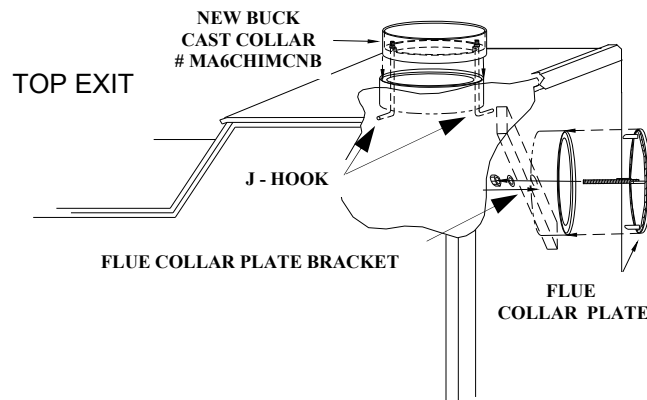

Figure 2.
7. Next fasten New Buck’s Cast Collar part number MA6CHIMCNB to the flue exit of stove to be used, using the J hook’s provided. Position collar with gasket towards the unit, tighten the J hook’s **Firmly** . (See Figure 2).
8. Fasten New Buck’s Flue Collar Plate to the exit not used for burning stove. Firmly secure the Flue Collar Plate Bracket with the nut and washer provided .(See Figure 2).